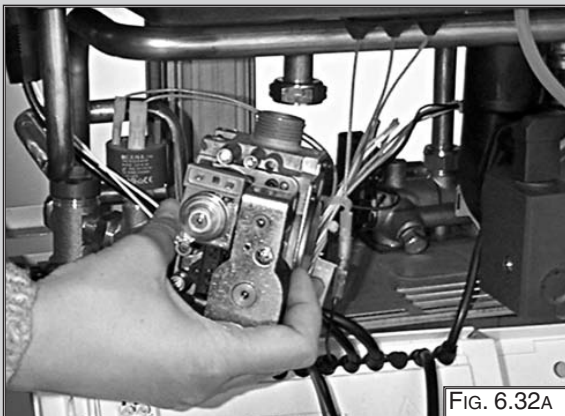

FIG. 6.32A
5. Remove the gas valve (FIG. 6.32A).